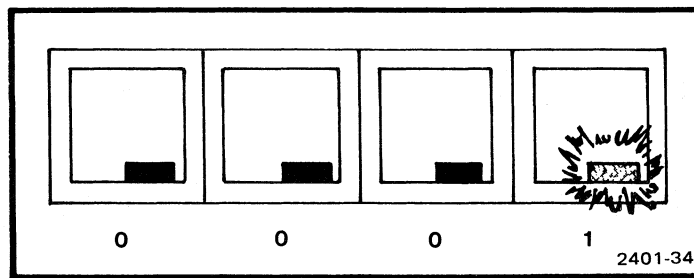

Figure F-4. Function key lights during first part of test.
3. To show that the first part of the test is being carried out, the 4025 uses its lighted function keys to display the binary numeral for the number one: 0001 (Figure F-4).